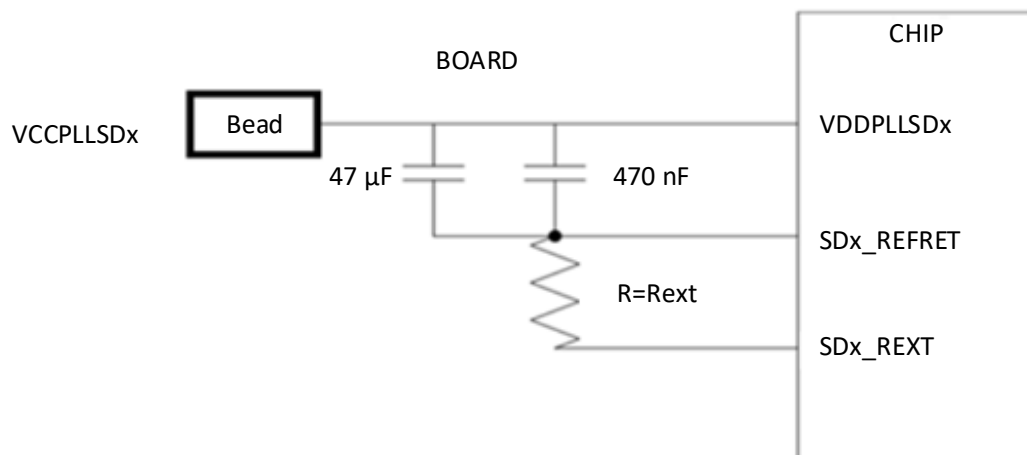

Figure 13.1. Example Connection to Analog Power and Reference Pins
- The power and ground traces should be short, and run close and parallel as far as possible, with large spacings to adjacent traces. On no account should any connection be made from VCCPLLSDx or SDx\_REFRET directly to board power planes; only connect as described above and depicted in Figure 13.1.